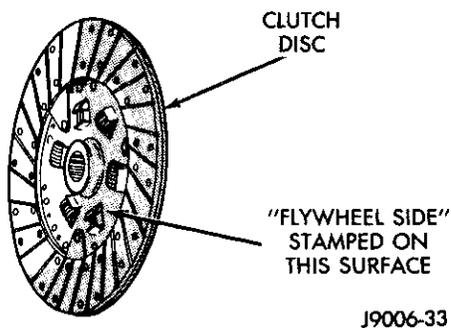

Fig. 4 Clutch Disc Position (Typical)
(2) Lubricate crankshaft pilot bearing with Mopar high temperature bearing grease.
(3) Insert clutch alignment tool in clutch disc hub.
(4) Verify that clutch disc is positioned correctly. Side of hub marked "Flywheel Side" should face flywheel (Fig. 4). If disc is not marked, position raised side of disc hub toward clutch cover and transmission.